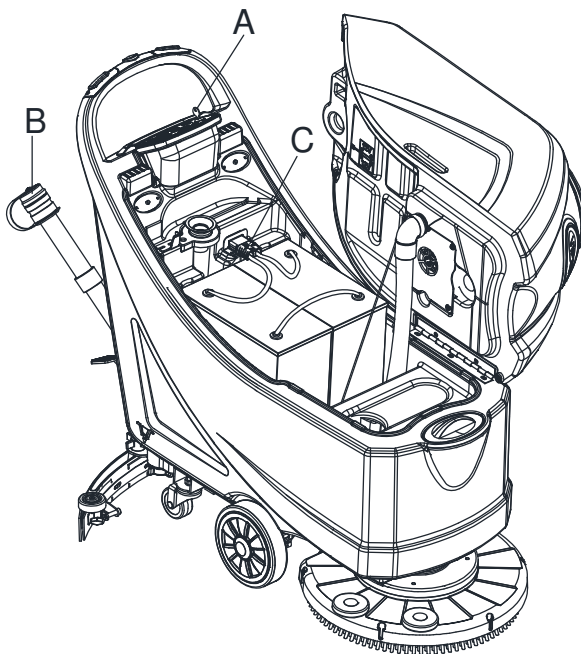

Figure 23
4. Clean the recovery tank lid (A), recovery tank (B), clean water tank(C) and the float ball filter support frame (E). Empty the recovery tank with the drain hose (B, Figure 23).
2. Disconnect the power supply cable (C, Figure 23) from the electrical mains.